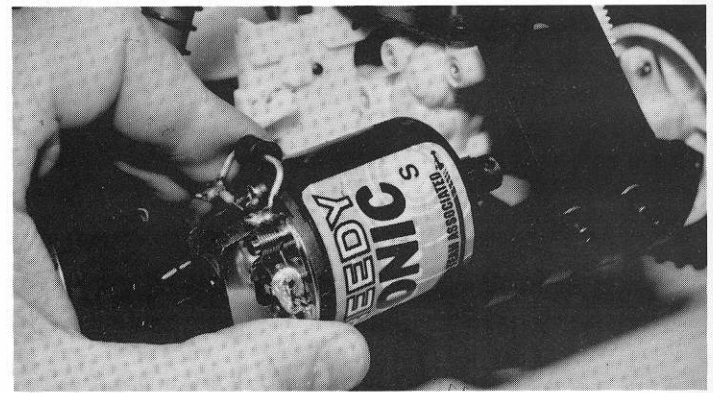

Fig. 165
□ **Figs. 165, 166 & 167** (1) In the master bag you will find a small bag containing the two #6515 gold 3mm x 6mm SHCScrews and two #6936 #4 aluminum flat washers. These gold colored screws are metric screws used only for mounting the motor to the motor plate. **WARNING! Do not use any of the black 4-40 screws to mount the motor. They can strip out the 3mm screw holes in the motor can, making the motor unusable.**
(2) Place one of the #4 flat washers on each of the #6515 motor screws. (3) Now slip the motor into the opening behind the transmission, from the driver's side, shaft end first. See fig. 165. The pinion gear will slide through the opening in the motor plate. (4) Now rotate the motor until the lower hole in the motor lines up with the lower motor mounting hole. (5) Thread the upper and lower motor screws and washers into the motor, but do not completely tighten the screws yet.
(6) Now we need to set the gear mesh. By moving the motor forward or back we will be moving the motor pinion gear closer to or away from the nylon spur gear. What we want to do is the get metal pinion gear as close to the nylon spur gear as we can without jamming the gears. The easiest way to check this is to put your finger on the plastic gear and see if you can rock it in the teeth of the metal pinion gear, but without moving the metal pinion gear. The gears should be as close as possible, but still have the ability to rock the plastic gear. (7) When you have the spacing correct you can go back and tighten both of the motor mounting screws. (8) Now recheck the gear spacing. It is important to